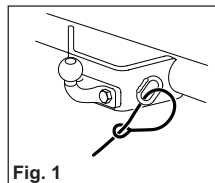

Fig. 1
- a) Pass the cable through the attachment point and clip it back on itself (Fig. 1).